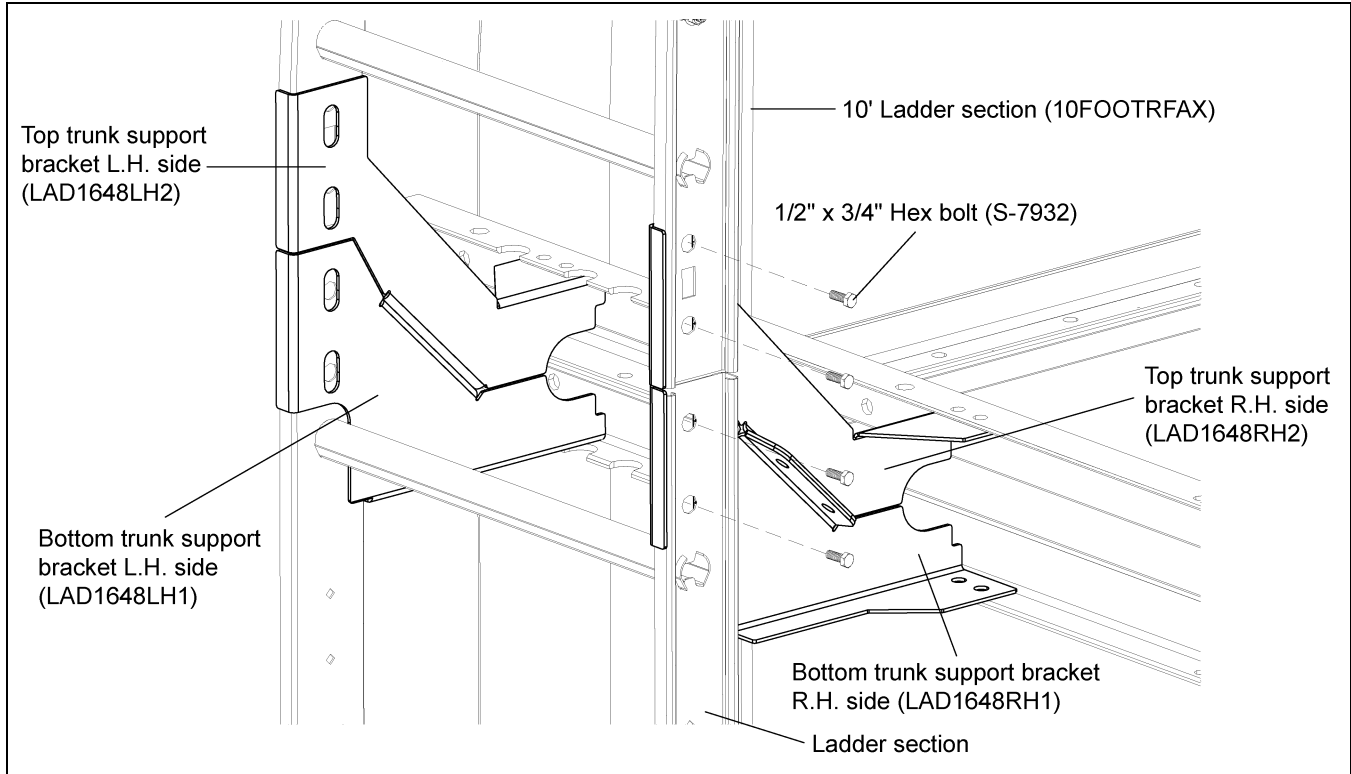

Figure 5M
1. Attach ladder sections to the ladder brackets using 1/2" x 3/4" hex bolts (S-7932). (See Figure 5M.)